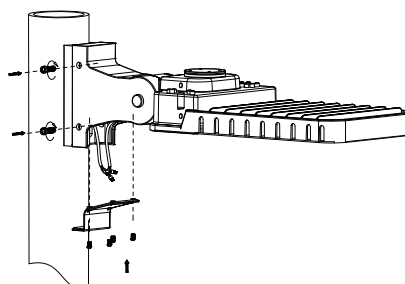

FIG. 5
3. Tighten the 4pcs M8 *20 bolts on the flexible arm and secure it to the adapter. Connect the power leads properly according to the wiring diagrams below. Make wiring connections inside the flexible arm, and tighten the bottom cover with 4pcs M4*12 screws (see **FIG. 5**). The wiring connections can also be made inside the pole.